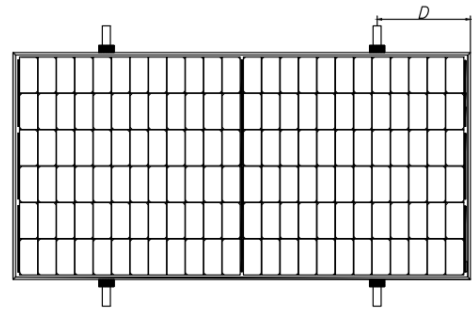
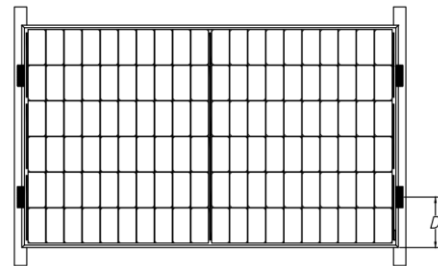

Fig. 8 Rails vertical to the long-side frame
Fig. 9 Rails overlapping the short-side frame
Photovoltaic modules can be installed across the support frame (Fig. 8) or parallel to the frame of the photovoltaic module (Fig. 9). When using clamps to install, each module must be secured with a minimum of 4 clamps.
- ⑧ For the installation method shown in Fig. 9, the module needs to be fixed with professional clamps (as shown in Fig. 13), and the overlap between the C side of the module and the rail should be  $\geq 15$ mm. Chint's limited warranty will be void if improper clamps or improper installation is used.